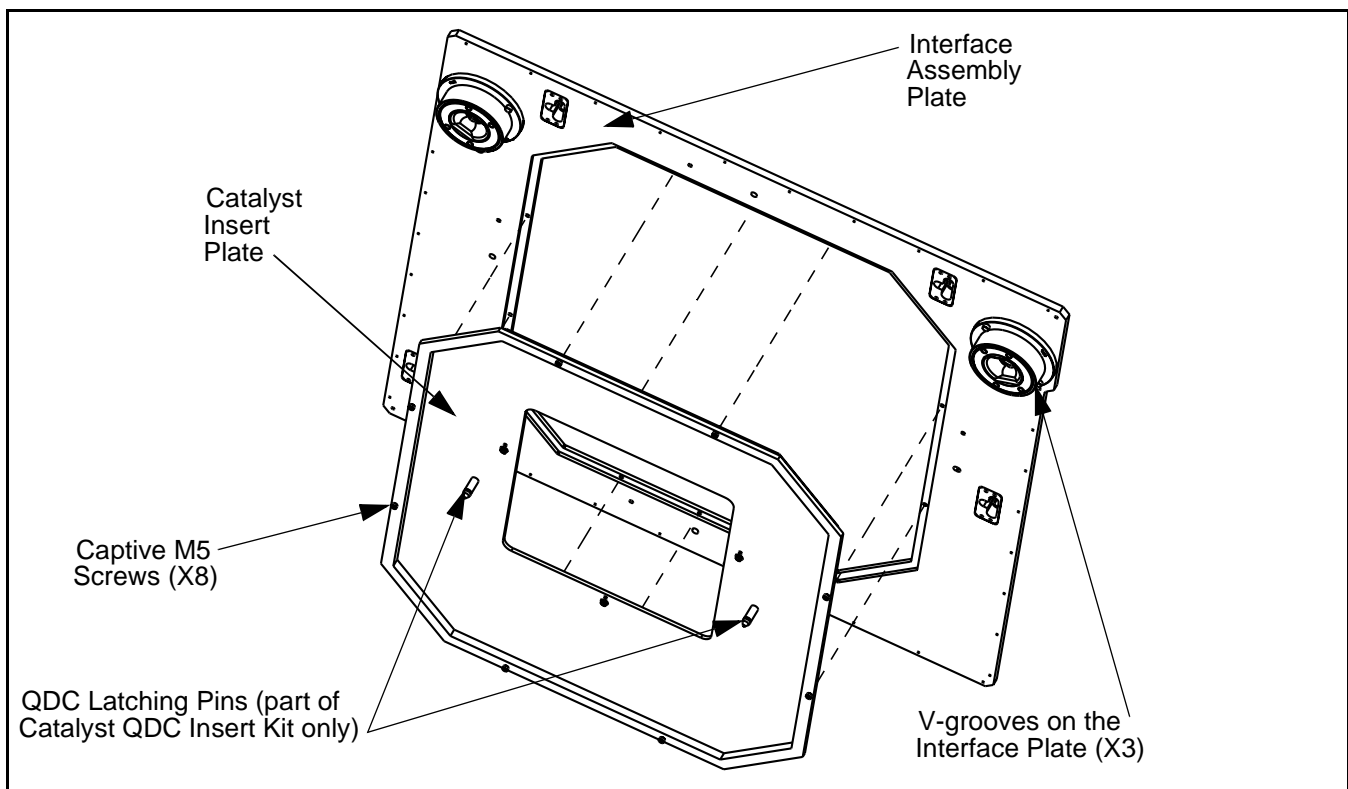
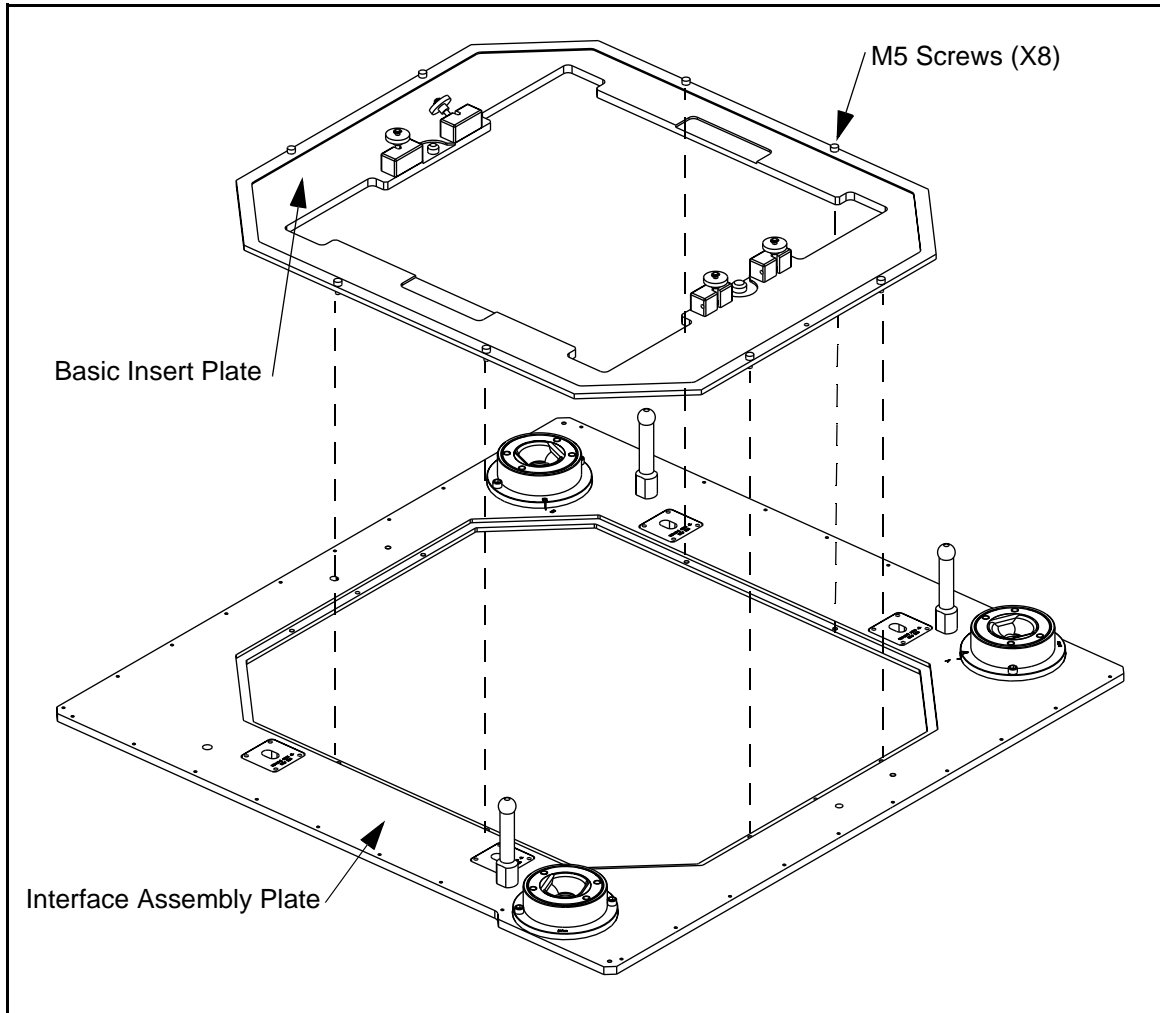

Figure 11 Attaching the Catalyst Insert Plate to the Interface Assembly Plate
Figure 13 Basic Tiger/FLEX Insert Kit
Instructions for mounting and attaching the insert plate to the interface assembly plate of the following testers or kits are given in this section (see Figure 11 through Figure 13):
- 1) Mount and align the insert plate to the interface assembly plate using the two alignment pins on the bottom of the insert plate flange to the hole and slot on the interface assembly plate. See Figure 11.
- 1) Mount and align the basic insert plate to the interface assembly plate using two alignment pins on the bottom of the basic insert plate flange to the hole and slot on the interface assembly plate. See Figure 13.